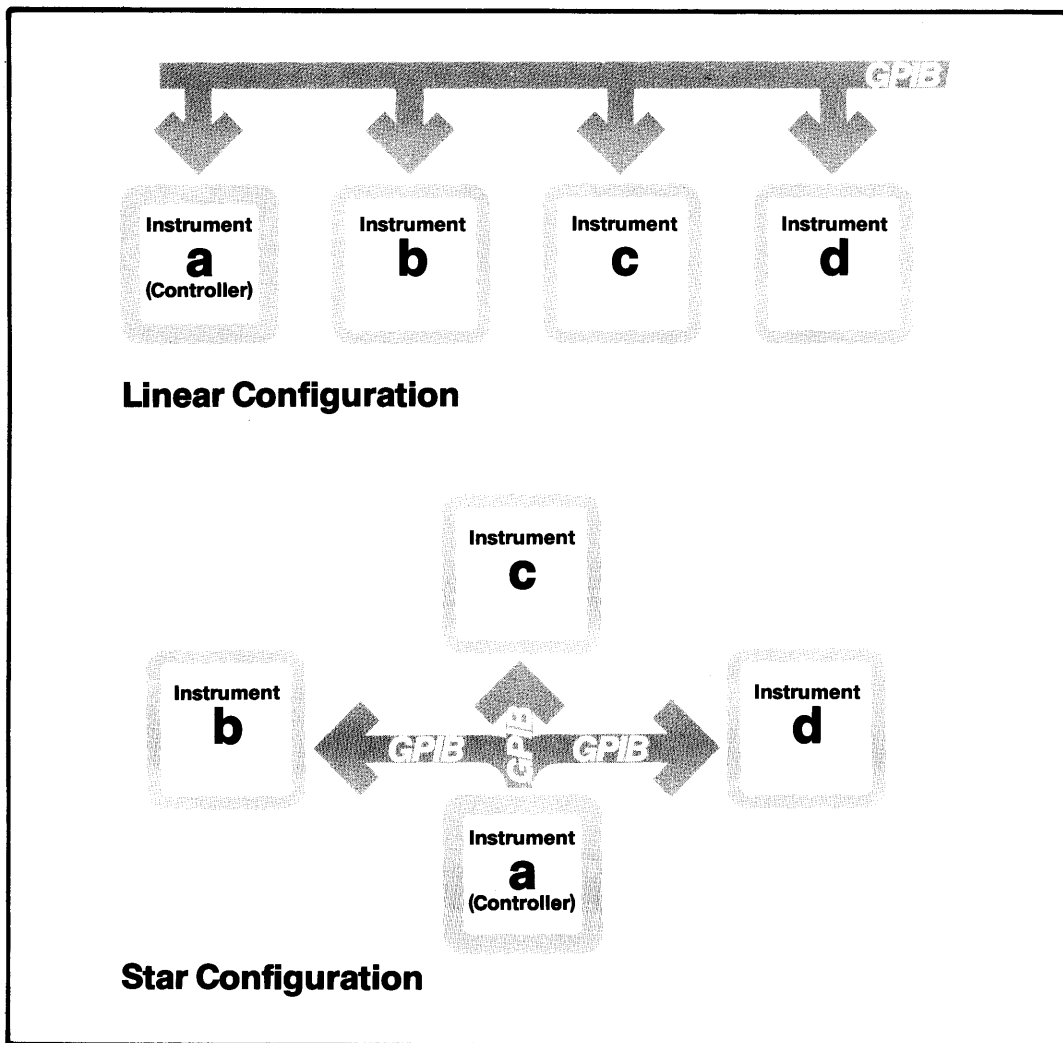

Fig. 3.5. The GPIB, with its standard connector, gives versatility in system set-up.
- Up to 15 devices (1 controller and 14 instruments) may be connected in linear, star, or combination configurations (see Figure 3.5). This allows for greater flexibility than conventional point-to-point interfacing like that which we discussed at the beginning of this chapter.